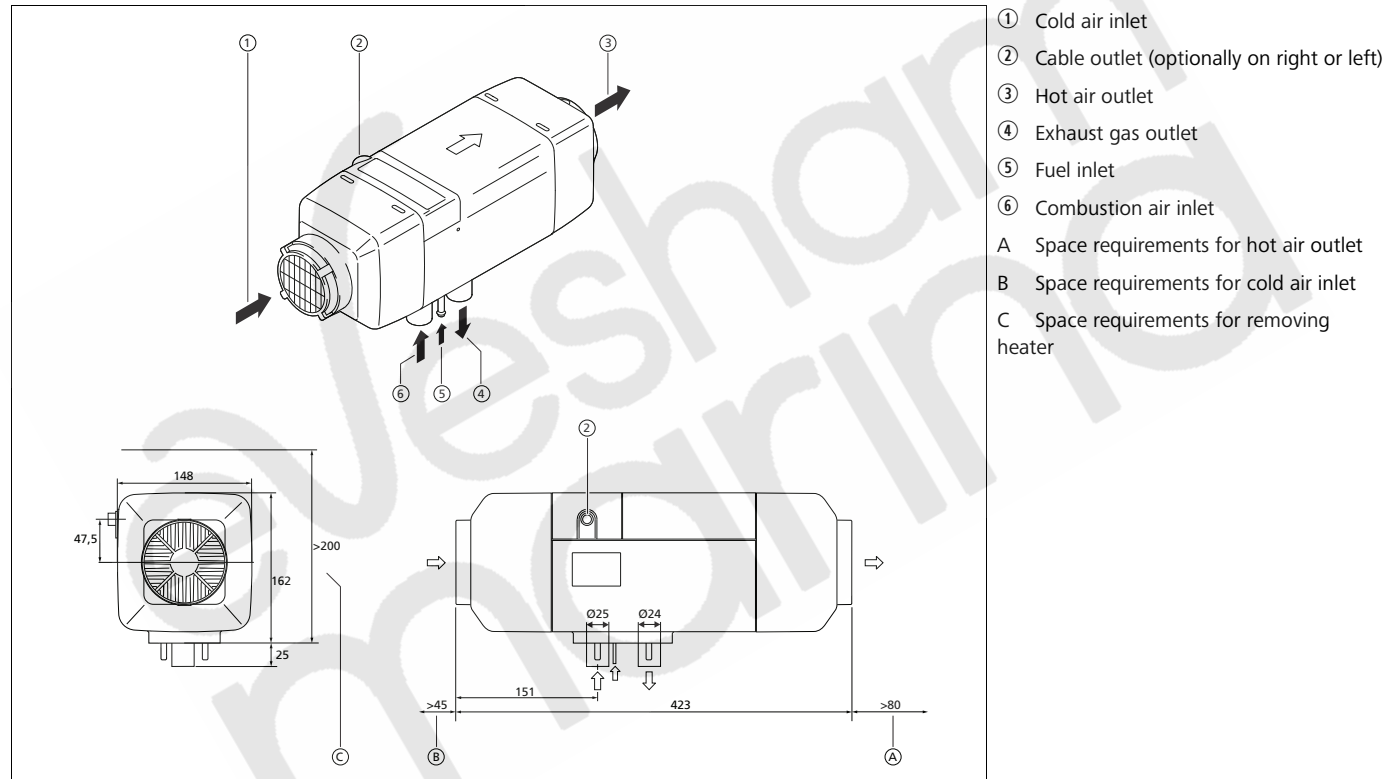
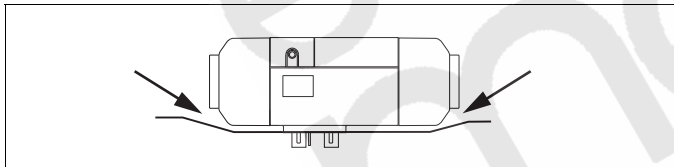

Fig. 3 Dimensions and space requirements [mm] Air Top Evo 40 / Air Top Evo 55
Fig. 7 *Ensure ease of movement of all moving parts!*
- ▶ Make sure that the casing of the heater is clear, i.e. does not make contact with any other parts, in installed position (see Fig. 7).
see Fig. 3 and Fig. 7